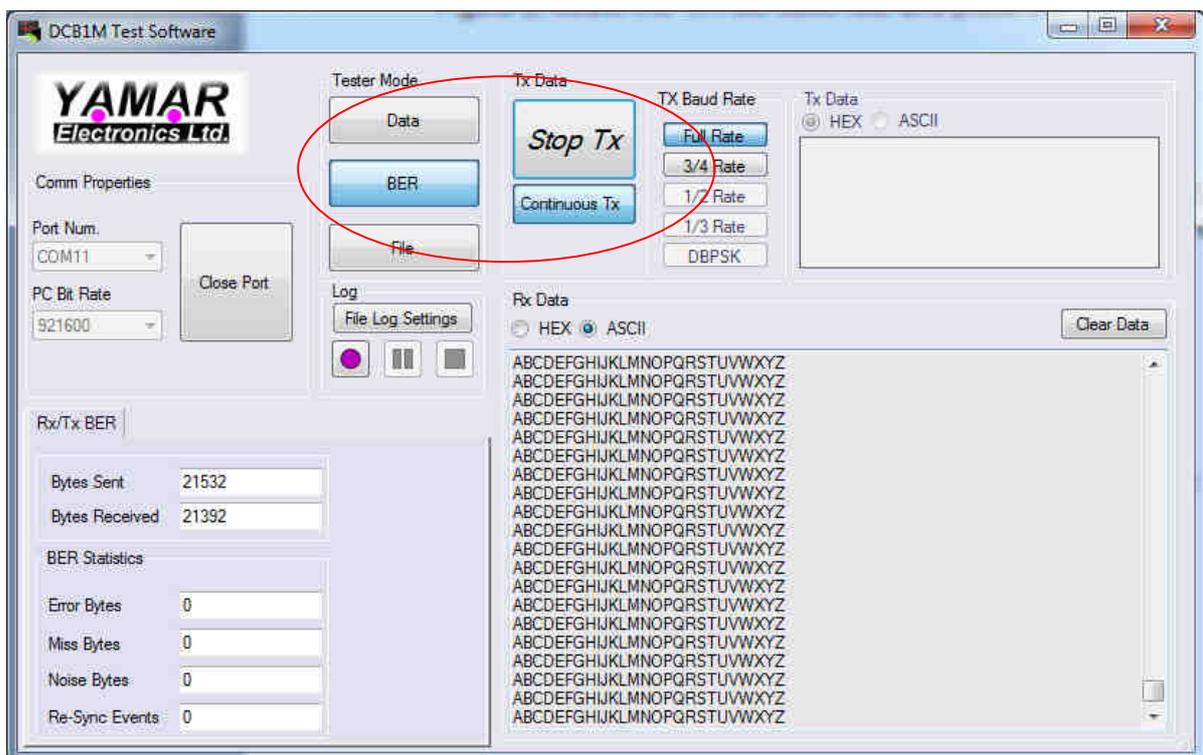

Figure 2 - Quick TX BER Mode
7. At the TX side select the "BER" Mode and the "Continuous Tx" buttons as shown in Figure 2, select the Tx PLC baud rate and press the "TX" button.